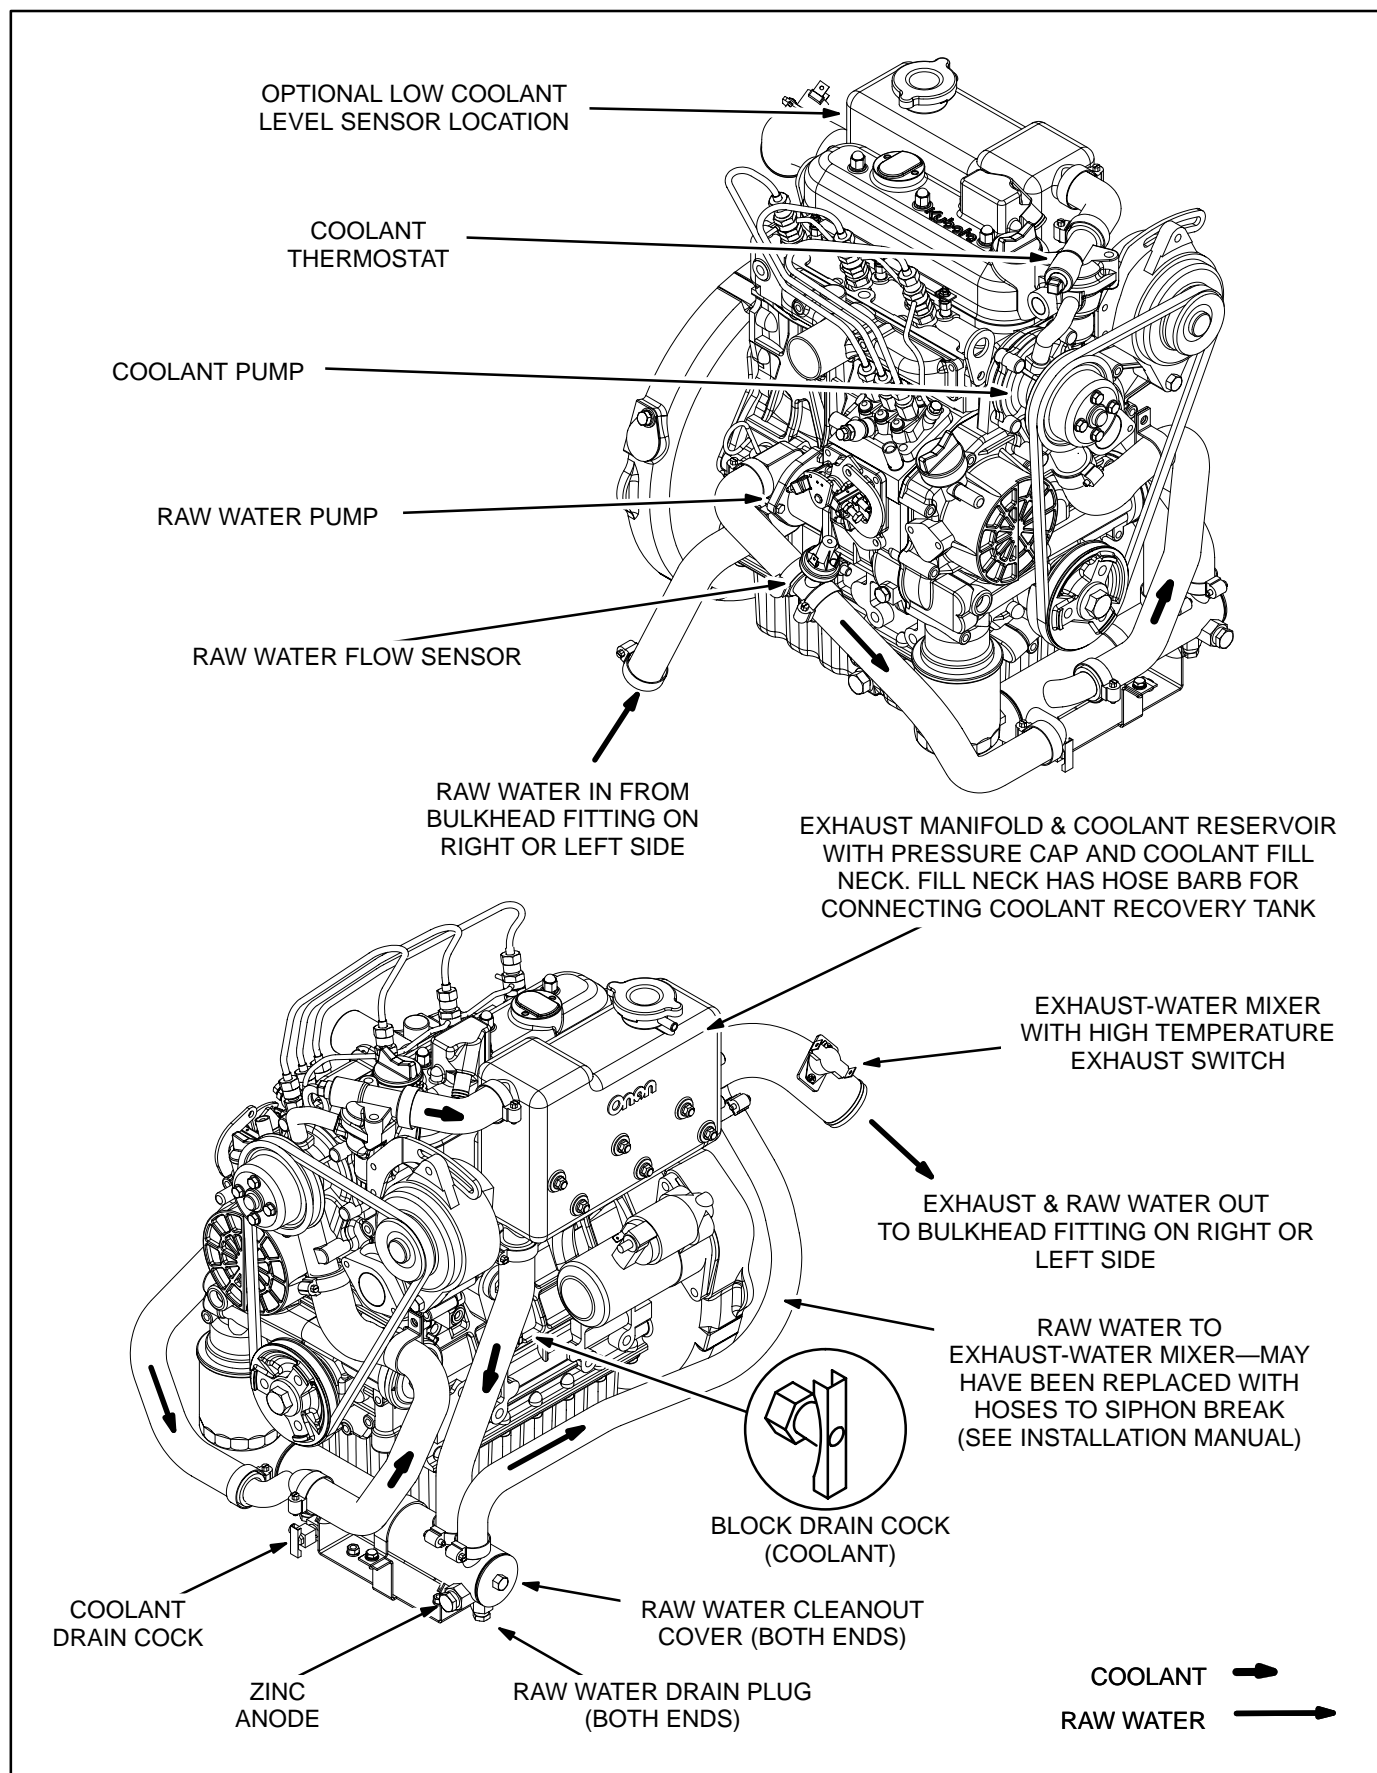

FIGURE 9. ENGINE COOLING SYSTEM—MDKAV, MDKBG, MDKAW, MDKAZ
The engine is cooled by a pressurized, closed-loop liquid cooling system (Figure 9 or 10). Coolant is pumped through passages in the engine block, head and exhaust manifold by a belt-driven pump and is cooled in a heat exchanger mounted on the base pan or in a keel cooler. The exhaust manifold also serves as the engine coolant reservoir.
3. Open the block and heat exchanger drain cocks (Figure 9 or 10) and collect the used coolant in containers for proper disposal. See the manufacturer's instructions regarding how to drain a keel cooler, if the boat is so equipped.
Both ends of the heat exchanger (Figure 9) have raw water drain plugs and cleanout covers. Clean the raw water tubes if the engine keeps shutting down (Code No.1) or the engine gauge indicates abnormally high engine temperatures. Drain the heat exchanger if there is a danger of freezing when the genset is not running or is in storage. (Freezing water can damage the raw water tubes in the heat exchanger. Engine coolant, but not raw water, is protected from freezing.)